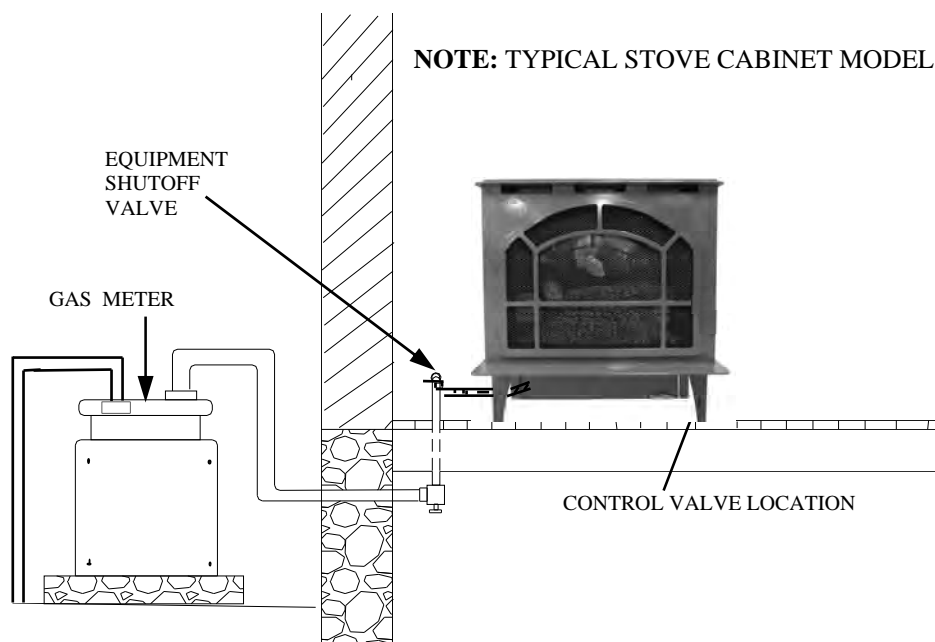

FIGURE 10 - CHECKING GAS JOINTS
3. Check all joints from gas meter to equipment shutoff valve (See Figure 10). Apply mixture of liquid soap and water to gas joints. Bubbles forming show a leak.
4. Check all joints from equipment shutoff valve to control valve (See Figure 10). Apply mixture of liquid soap and water to gas joints. Bubbles forming show a leak.